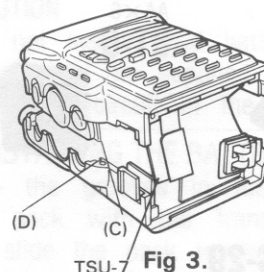

Fig 3.
5. Slightly lift the sides of the battery case at the front and rear, as shown in figure 3.
8. When putting the case back together, make sure the PTT switch base (part C) fits in the groove (part D) in figure 3.